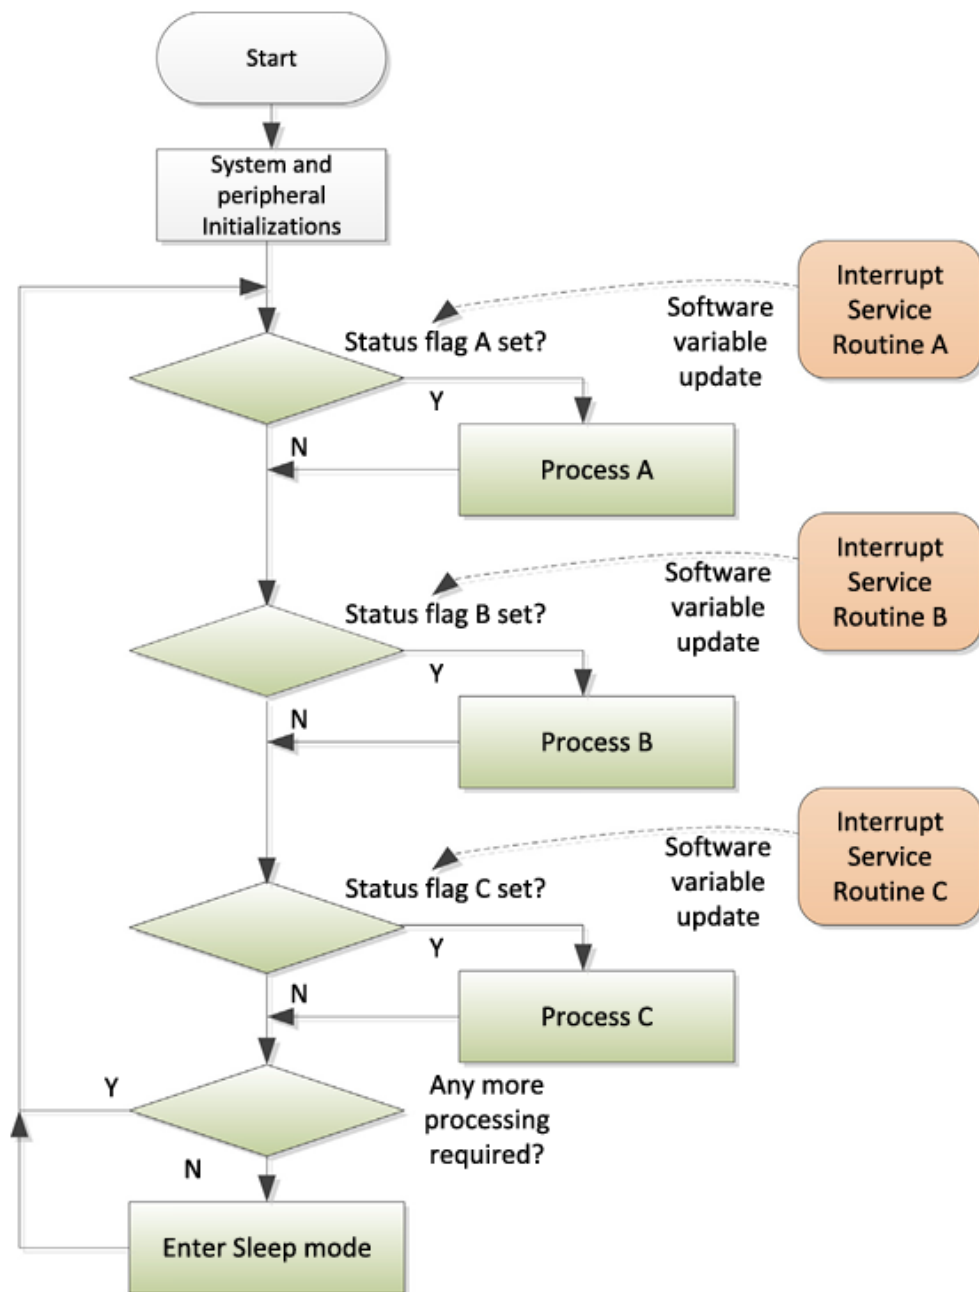

FIGURE 2.10
- Once the first part of the interrupt service is carried out, it updates some software variables so that the second part of the service can be executed in the polling-based application code (Figure 2.10)